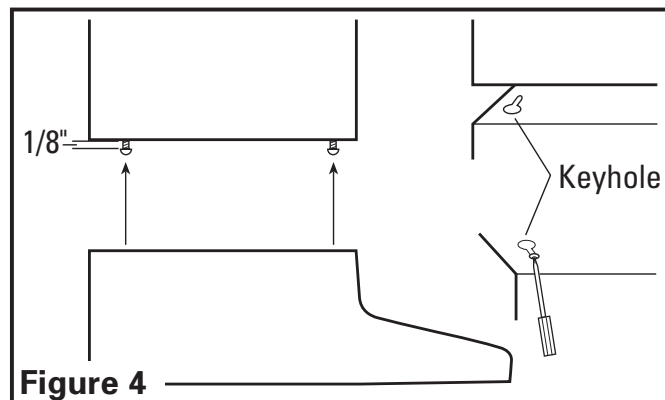

**Figure 3**
1. Determine where the electrical service will enter the hood and remove the appropriate electrical knockout by inserting a screw driver into the slot and rocking back and forth until the knockout comes loose (**Figure 3**).